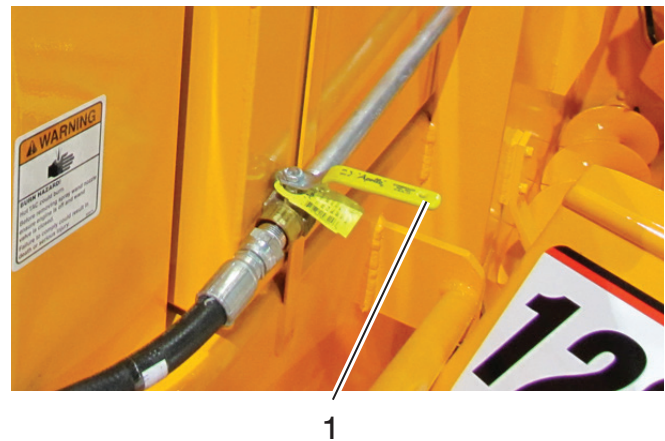

Figure 4-11. Spray Wand
10. TO FLUSH turn exit valve handle to off. Hold open, flush valve handle while also holding wand spray handle open. Continue this until flush appears. Close valves and stow wand back in the stow position. See **Figure 4-11.**